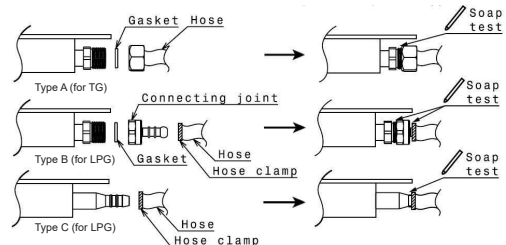

Fig. 8
- Apply soapy solution to each joint. (Fig. 8)